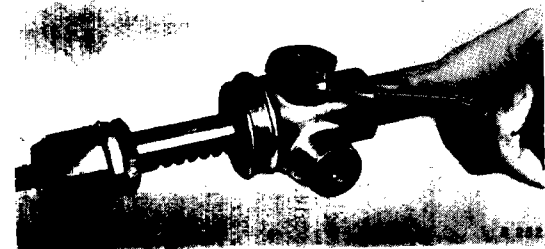
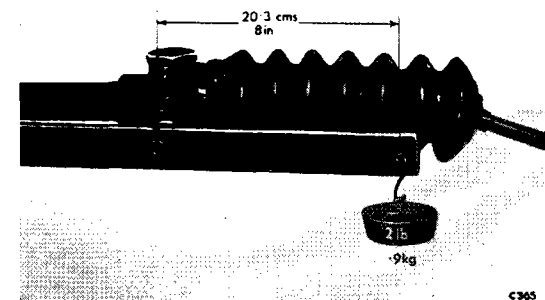

Fig. 18. Using feeler gauge to determine shim thickness required under cap nut
Fig. 19. Measuring load required to rotate pinion
5. Fit the plunger (31) and cap nut (27) to the rack tube (25). Tighten the nut to eliminate all end float and, using feeler gauges, measure the clearance between the nut and the rack tube faces as shown on Fig. 18. Remove the cap nut (27) and plunger (31).
7. Pack the unit with grease and assemble the cap nut (27), shim pack (29), spring (30) and plunger (31) to the housing (25) and tighten the cap nut.
8. When the unit is correctly adjusted, a force of 2 lb. (0.91 kg.) is required to rotate the pinion shaft at a radius of 7.9" (20.3 cm.) see Fig. 19. Check and re-adjust the unit, if necessary, by adding or subtracting shims from beneath the cap nut (27).